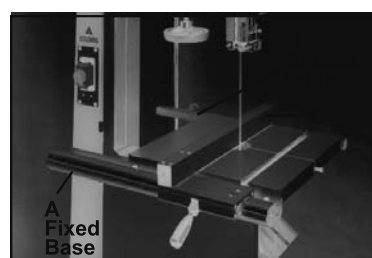

Fig. 7
- Setting the fixed base(A, Fig. 7) to the cast iron table with two hex head bolt m6x20, two spring washer m6.
- Setting the square tube (B, Fig. 7) to the table with 2 hex socket bolt m6x16.
- Setting the fence (A, Fig. 7) to the fence body, place the fence assembly on the fixed base, slide the fence on its guides until it is the required distance from the blade.